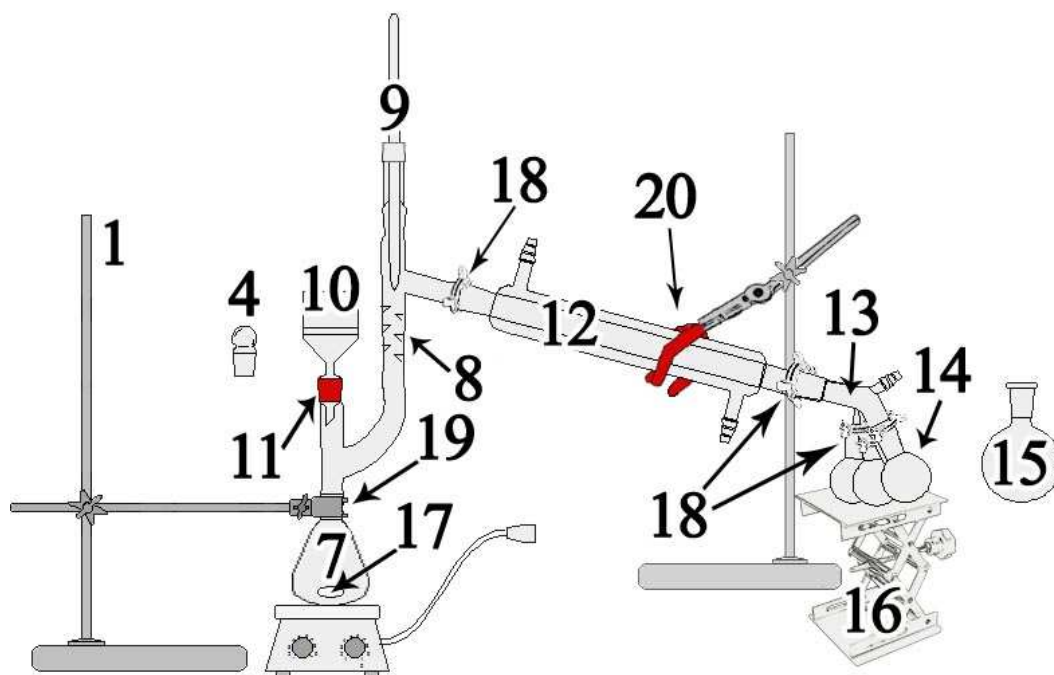

Fig. 2. Set up needed to implement Steps 5-10 of the synthesis. Refer to page 4-5 for the numbers
**Step 6.** Assemble the distillation apparatus as shown on Fig. 2 supplying all the joints with the teflon sleeves and clips. First, attach two 10 mL and one 50 mL receiver flasks to the distilling receiver cow. Then connect the vacuum hose to the cow and complete assembling. Fix the apparatus over the magnetic stirrer to adjust it on height. Use the adjustable lab jack lift support.